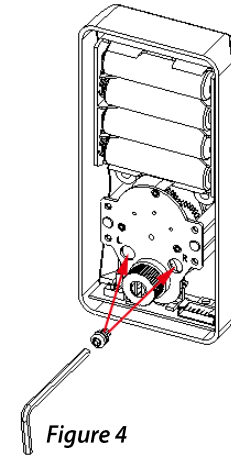

Figure 4
(4). Install knob screw spacing, in order to protect the locking bar don't damage by greatly too forcibly knob lock, as shown in **figure 4**.